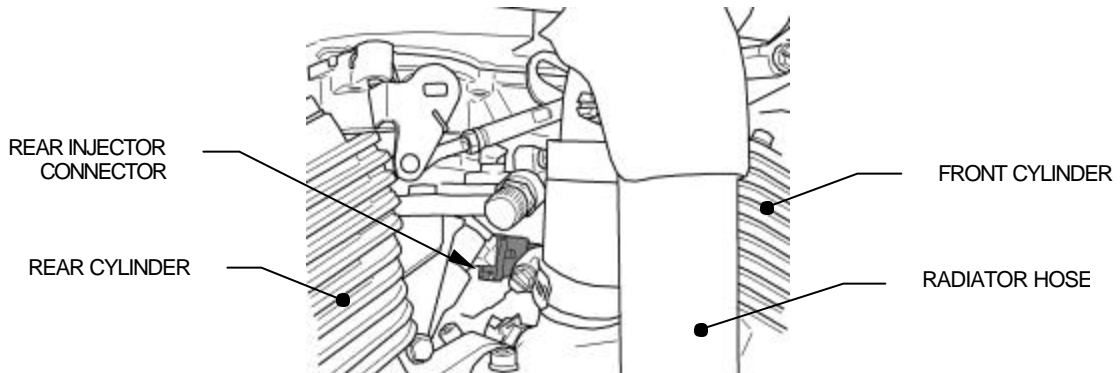

FIGURE 3
5. Attach the Fi2000 module's rear injector plug, with the blue and red wires, onto the rear injector. Then take the original HD rear connector and insert the corresponding Fi2000 connector, with the green and red wires, into it. (see figure 3)